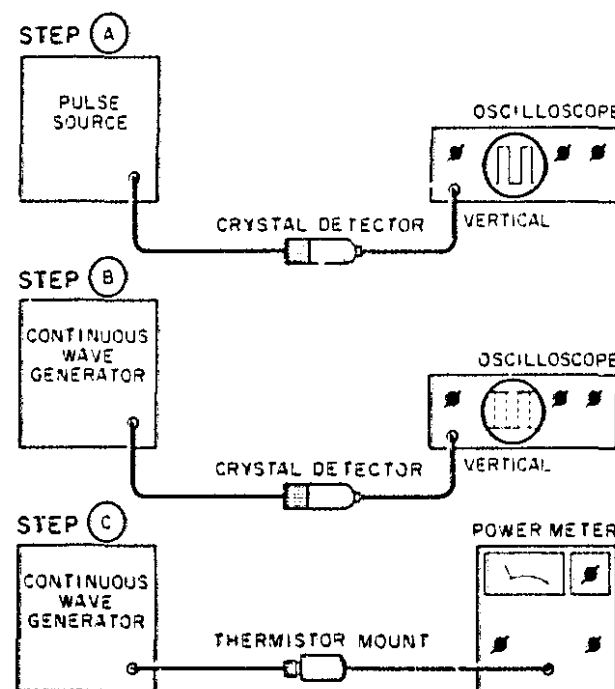

Figure 1. Peak Power Measurement
**27. Peak Power Measurement.** The arrangement of equipment for peak power measurement is shown in Figure 1. The procedure involves calibration of an oscilloscope which, in turn, is used to calibrate a CW generator. The output of the calibrated CW generator is measure with a power meter; the peak power of a pulse is thereby measured. The procedure is as follows:
- Connect equipment as shown in Figure 1, step a. Observe pulse on a dc-coupled oscilloscope. Using a marking pencil, mark on the graticule the base-to-peak amplitude of the pulse envelope.